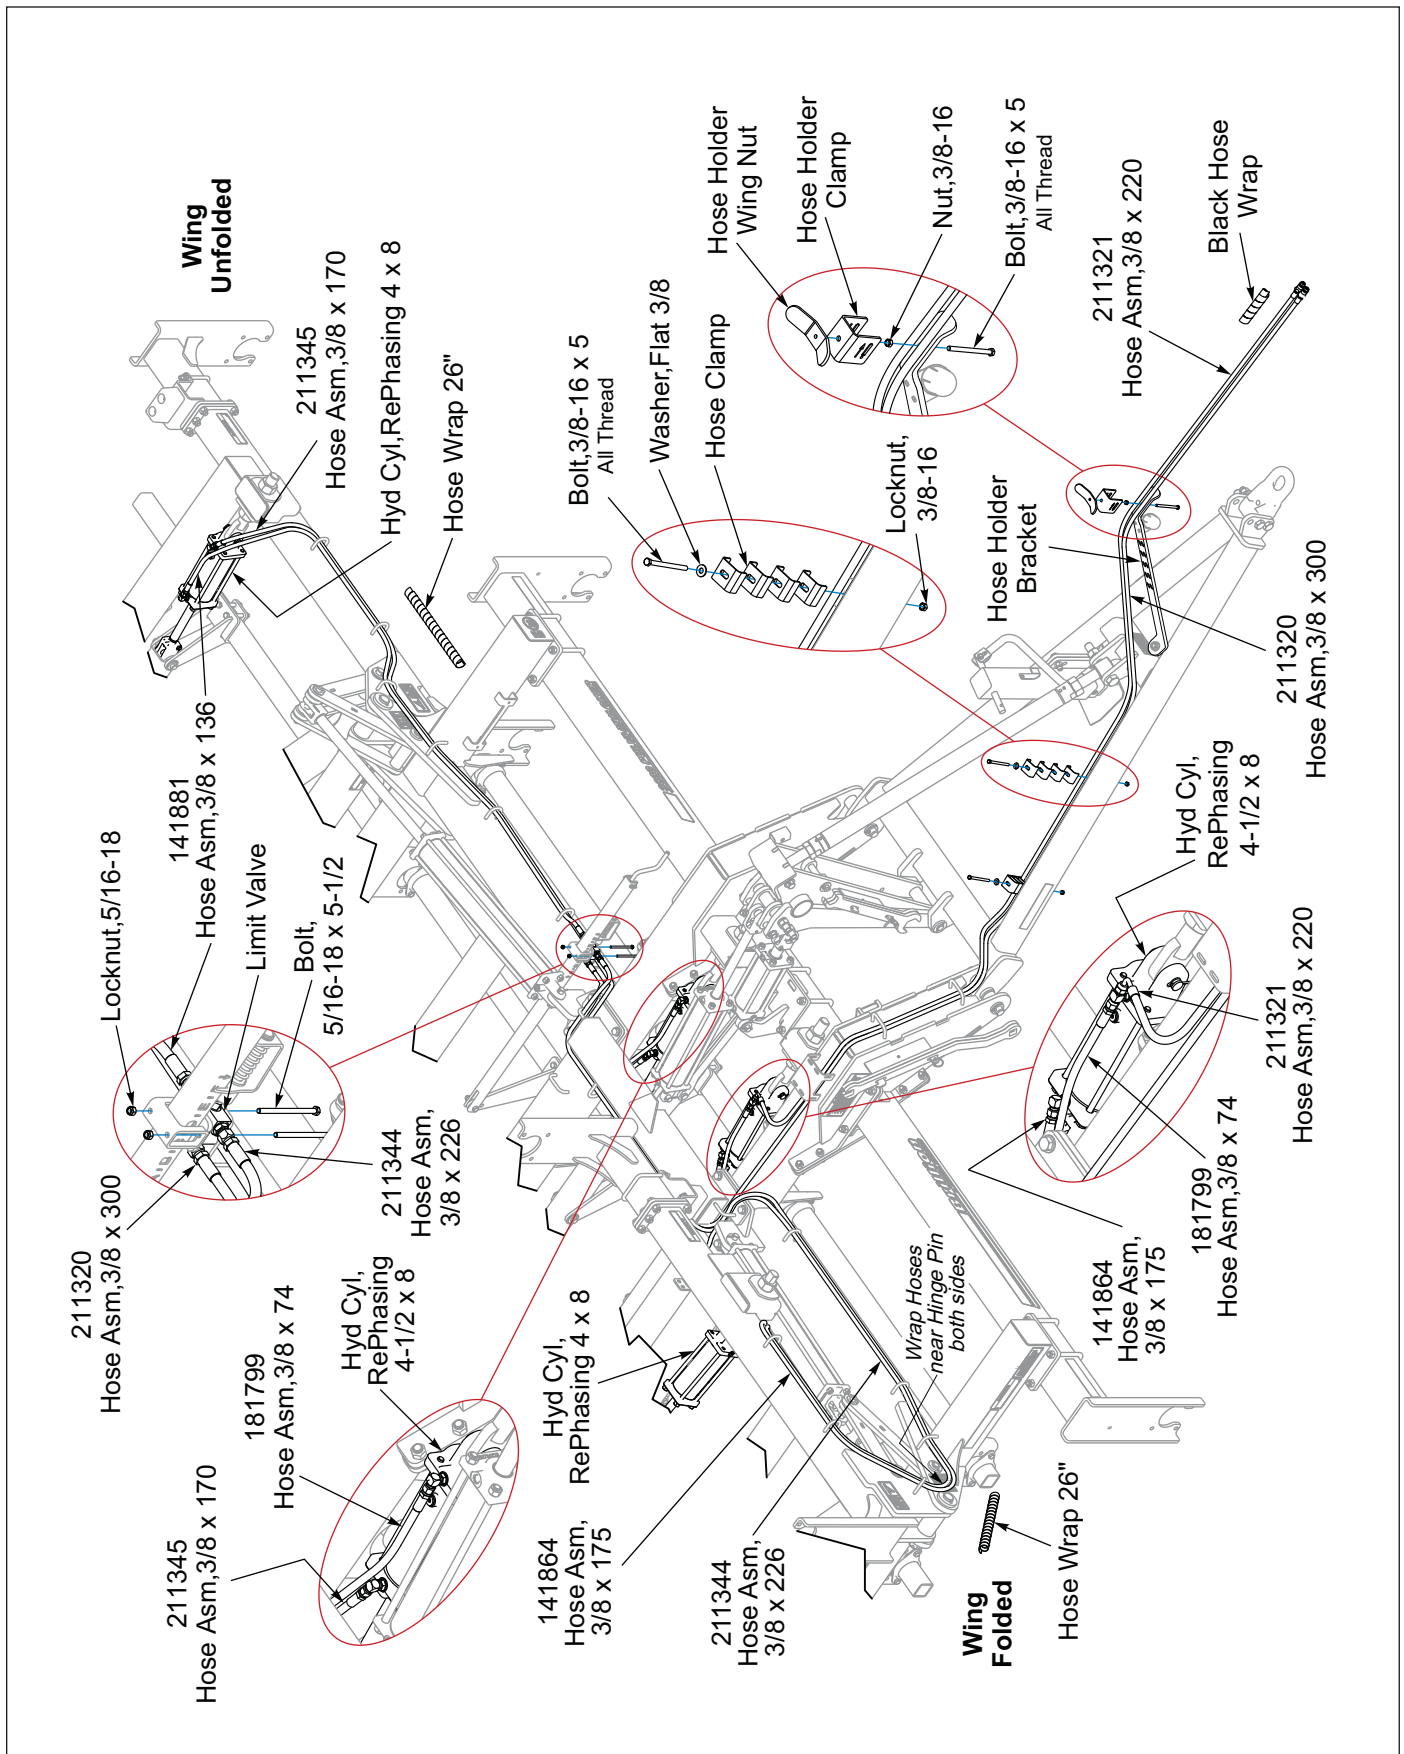

Figure 2-17: Hydraulic Tooth Control Layout
2. Install Limit Valve and Depth Stop Guide to frame bracket with 5/16-18 x 5 Bolts and Locknuts. See Figures 2-17 and 2-24.